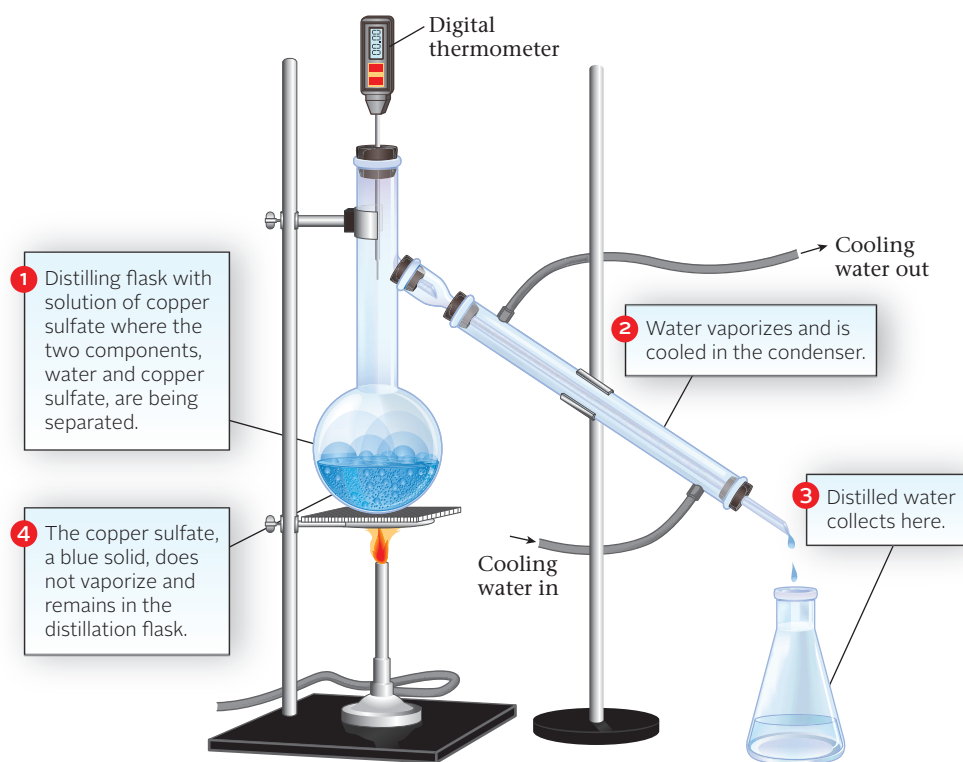

Figure 1.6 Apparatus for a simple distillation.
- **distillation**, used to resolve a homogeneous solid-liquid mixture. The liquid vaporizes, leaving a residue of the solid in the distilling flask. The liquid is obtained by condensing the vapor. Distillation can be used to separate the components of a water solution of copper sulfate (Figure 1.6).